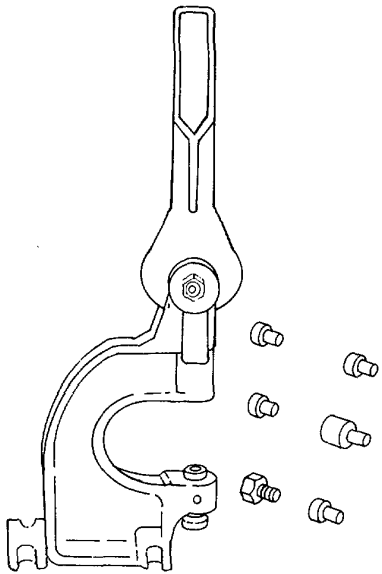

Figure 1-9. Grommet Press Machine.
- (5) Grommet Press. The grommet press (fig. 1-9) is used to attach grommets and snap fasteners.